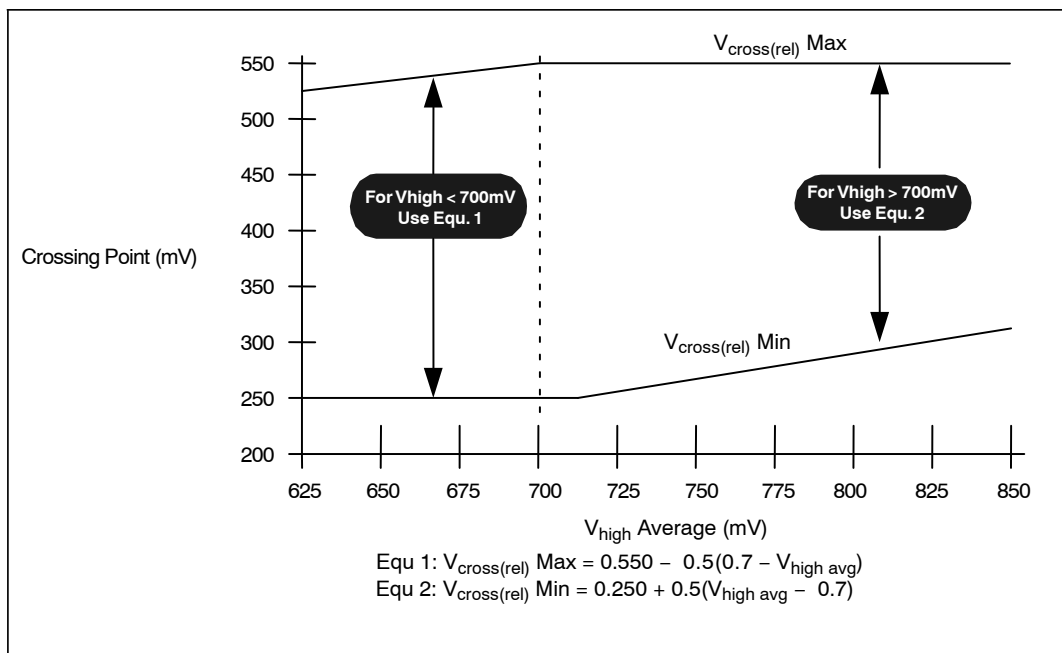

Figure 16.  $V_{\text{cross}}$  Range Clarification (Note 36)
| $V_{\text{cross}}$ absolute                     | Absolute Crossing Point Voltages (Notes 12, 17 and 24)Relative Crossing Point Voltages can be calculated (Notes 16, 17 and 24) (Figure 16) | 250  |      | 550                     | mV     |
16. Vcross(rel) Min and Max are derived using the following, Vcross(rel) Min =  $0.250 + 0.5 (V_{\text{high avg}} - 0.700)$ . Vcross(rel) Max =  $0.550 - 0.5 (0.700 - V_{\text{high avg}})$ , (see Figure 16 for further clarification).